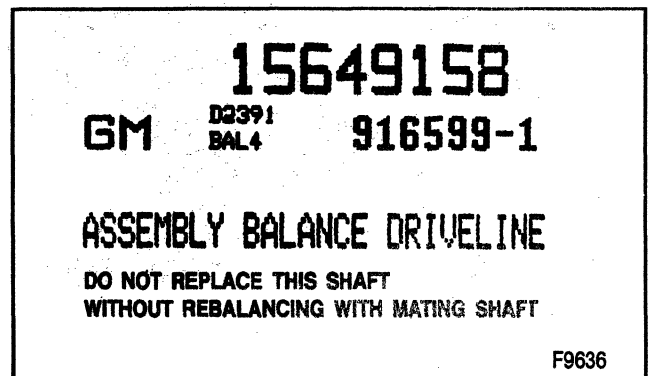

Figure 12—System Balanced Propeller Shaft Assembly Notice
- If one propeller shaft of a system balanced assembly is replaced, the mating shaft must be rebalanced with the replaced shaft. System balanced propeller shafts have a notice affixed to them similar to Figure 12.